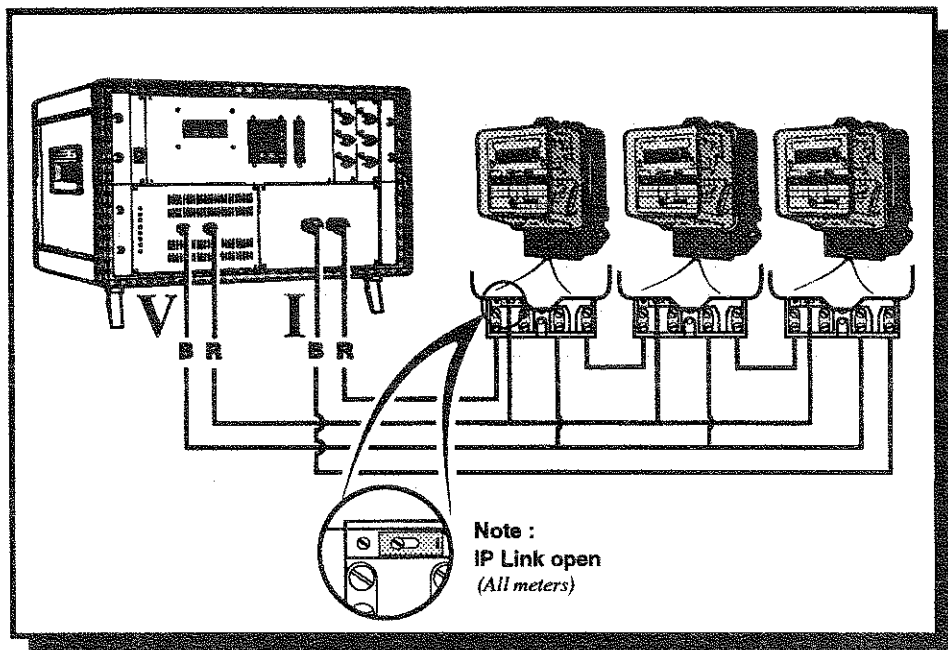

Fig. 5.4.2 Connection of multiple kWh Meters
- 5) Connect the UTs to the MTB1 as indicated in Fig. 5.4.2.
- 18) Observe that the specified current and voltage levels are displayed in the display window. Also observe that the rotating disks of all the UTs are turning from left to right. *(If a disk is turning the other way round, please ensure that the UT is connected as indicated in Fig. 5.4.2)*